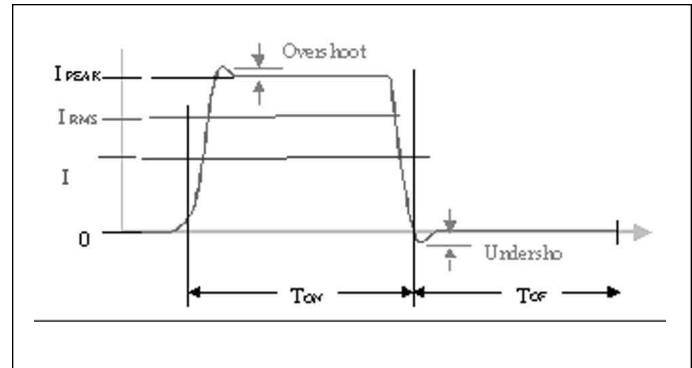

Fig. 5—Average pulse signal level.
The average signal level for a unipolar pulse, as shown in Fig. 5, can be calculated by multiplying the peak signal level (I_{PEAK}) and the duty cycle (D).
RMS is short for root mean square. The I_{RMS} level falls between I_{PEAK} and I_{AVG} as shown in Fig. 5. The RMS current is important because it defines the heating effect of the current. It is, therefore, the RMS and not the DC current that should be used when determining cable and shunt requirements. For DC $I_{\text{RMS}} = I_{\text{AVG}}$.
The RMS signal level for a unipolar pulse, as shown in Fig. 5, can be
One of challenges in the design of power supplies, is to deliver fast transition times with reasonable overshoot. Overshoot as demonstrated in Fig. 5 shows the pulse exceeding the I_{PEAK} level. Power supplies that produce large overshoots may damage the plating process.